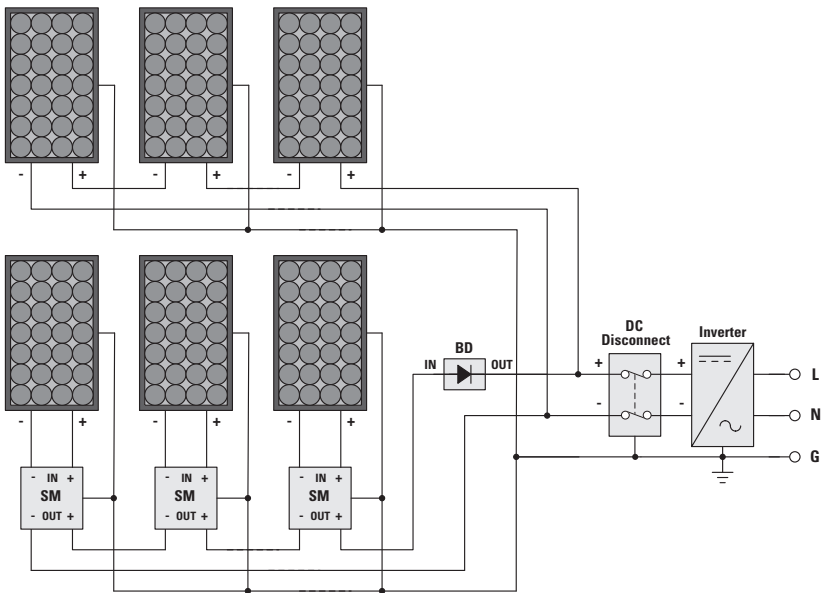

Figure 9. Simplified PV Wiring Diagram including the SolarMagic Optimizers and Blocking Diode
To simplify installation, the SolarMagic power optimizers (SM) for the assisted string(s) should be attached to the racking and pre-wired prior to installing the PV panels (**Figure 9**). The power optimizers are connected in series with the most positive power optimizer's positive output connecting to the input of the blocking diode (BD). The purpose of and installation instructions for the blocking diode are discussed in a later section. The output of the blocking diode connects to a multi-string combiner box or DC disconnect; the DC disconnect (circuit breaker) may be integrated within the inverter. Similarly, the most negative power optimizer's negative output is the return line to the negative input of a multi-string combiner box or DC disconnect.
The blocking diode is designed to block reverse current flow by allowing current to flow in only one direction and disconnect the circuit if current attempts to flow in the opposite direction. Due to the interaction, strings with SolarMagic™ power optimizers installed – also referred to as assisted strings – will have varying voltage levels during energy production hours. A single blocking diode must be installed in each assisted string to protect the SolarMagic power optimizers from damage. Refer to **Figure 9** for proper placement of the blocking diode (BD).